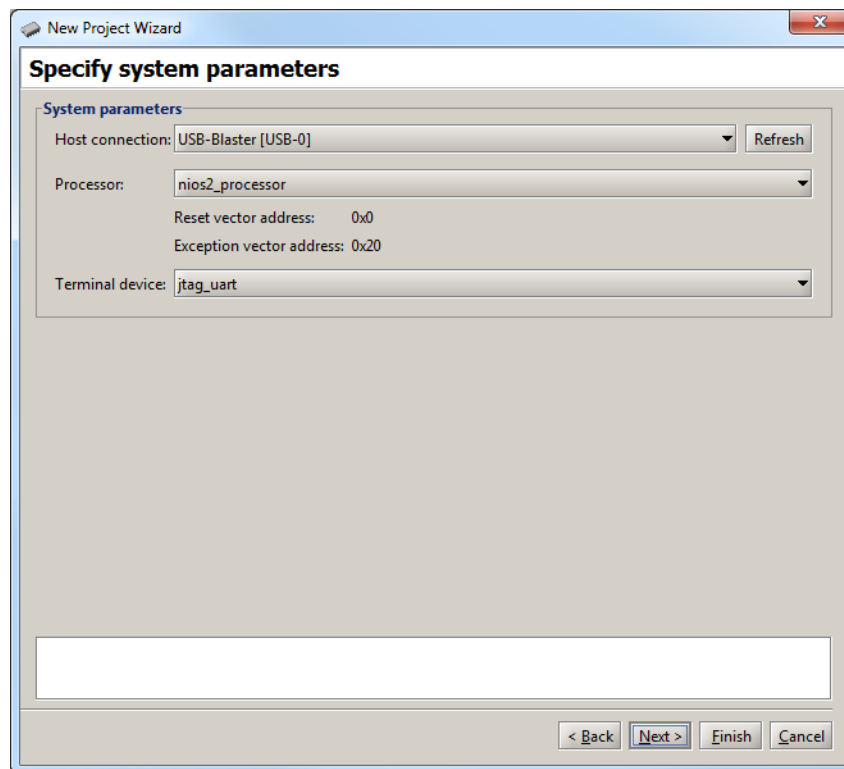

Figure 31. Specify the system parameters.
7. The Monitor Program also needs to know where to load the application program. In our case, this is the memory block in the FPGA device. The name assigned to this memory is *onchip\_memory*. Since there is no other memory in our design, the Monitor Program will select this memory by default, as shown in Figure 31.